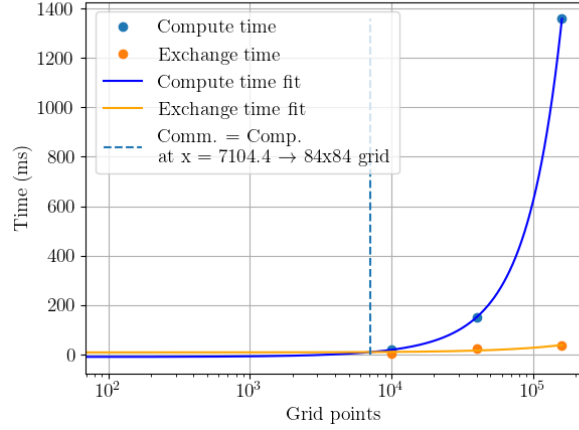
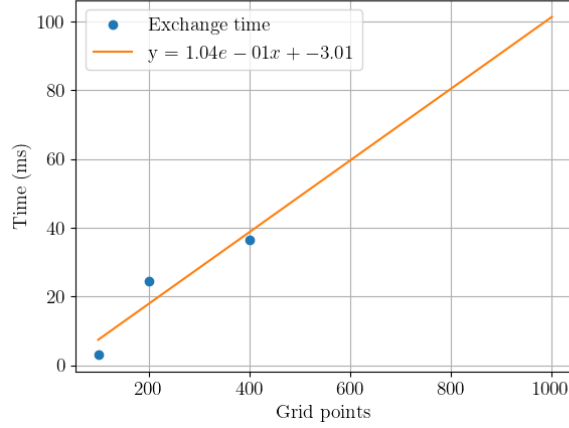

Figure 22: Fitting expected computation time \equiv communication time for 4 processes.
Figure 23: Extrapolating the communication time for $n = 1000$ using a linear fit.
1) Let's assume that we have 4 processes and want to estimate for which grid size the computation time is equal to the communication time. One way to estimate this is by fitting a polynomial of degree 2 to the computation and a linear fit to the exchange time for our measurements in Table 8 and find the point where the times are equal. Thereafter we can use this information to determine the grid size where this happens. This process gives us a value of $n \approx 84$ for the grid size as shown in Figure 22
where 1241 ($\#_{\text{iterations}}$) is the number of iterations to converge. We set $t_{\text{comp.}} = t_{\text{data}}$ and solve for P . We need values for $t_{\text{global_comm}}$ and $t_{\text{neighbor_comm}}$ and take a look at Figure 22 and decide to further investigate the trend for the exchange time ($= t_{\text{global_comm}} + t_{\text{neighbor_comm}}$). We decide to use a linear extrapolation as shown in Figure 23. We get an estimated communication time of 100 ms.